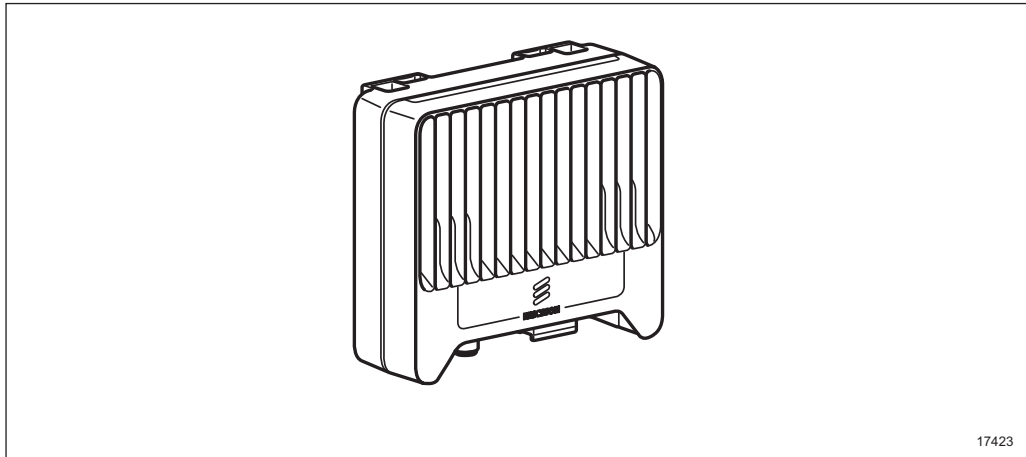

Figure 142 MINI-LINK 6363, MINI-LINK 6364, or MINI-LINK 6365 Mechanical Design
- MINI-LINK 6363 (including support for E-band – 80 GHz), see Figure 142. MINI-LINK 6363 comes in two versions: MINI-LINK 6363, optimized for the highest system gain, and MINI-LINK 6363/2, optimized for the lowest power consumption.
- MINI-LINK 6364, see Figure 142, is a sub-band free radio optimized for highest output power and has support for Carrier Aggregation 2x28 MHz to 112 MHz when connected to MMU 1002 or MMU 1004.
- MINI-LINK 6365, see Figure 142, is optimized for highest system gain and has support for Carrier Aggregation from 2x28 MHz to 2x112 MHz when connected to MMU 1002 or MMU 1004.